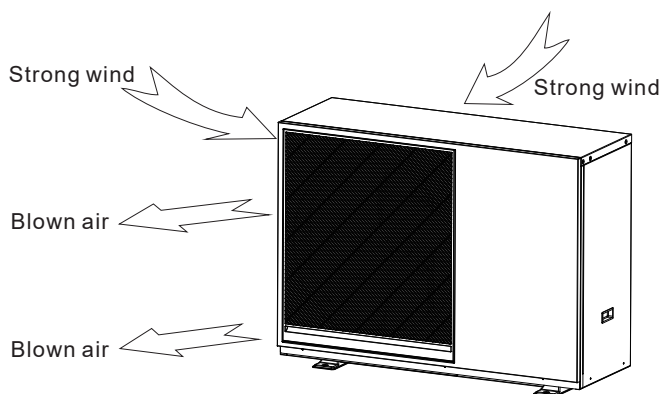

Figure 3-5: Wind installation
- For installation of the unit in a place where the wind direction can be foreseen, set the heat pump outlet side at a right angle to the direction of the wind. Refer to Figure 3-5.